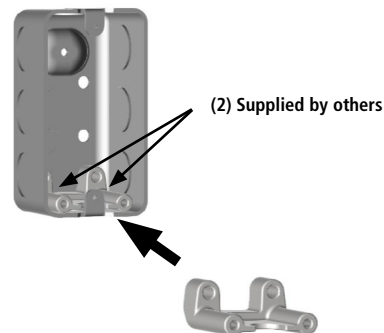

FIGURE 3
5. Optional - "HD" Adapter – provides reinforced attachment to the building structure through the junction box using (2) screws suitable for material and supplied by others. **See Figure 3.**
11. If "HD" option has been ordered, secure (2) 8-32 hex head fasteners to optional "HD" adaptor. **See Figure 3.**